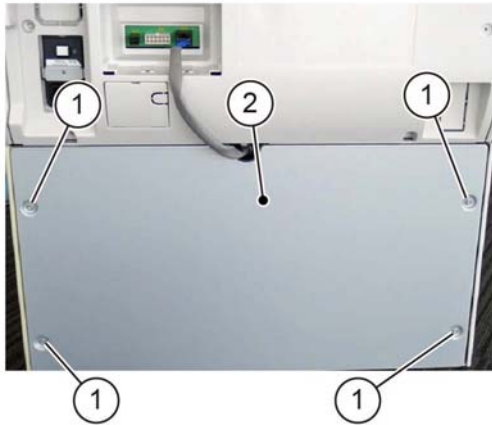

Figure 1 Rear cover removal
1. Remove the rear cover, Figure 1:
- a. Remove four screws (1).
- b. Remove the rear cover (2).